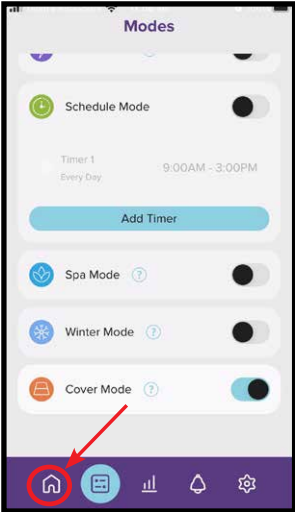

Figure 9.80
- Return to the dashboard now by using the home button (refer Figure 9.80).